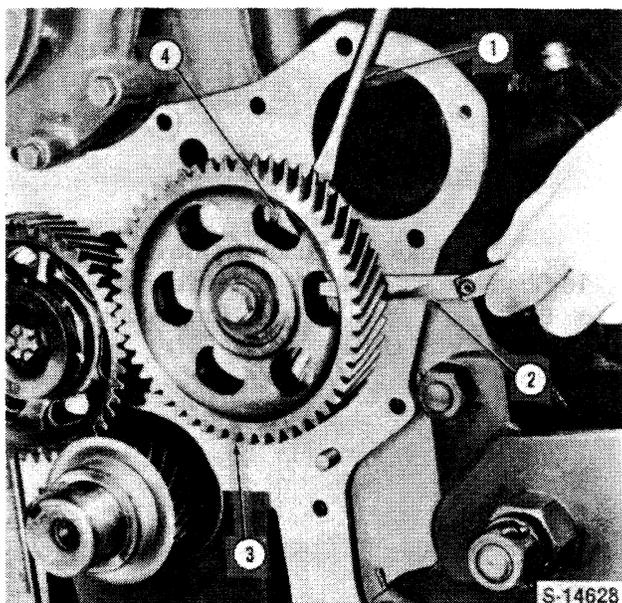

Figure 21
7. Pry the camshaft gear away from the thrust plate and using a dial indicator or feeler gauges, measure the clearance, Figure 21. Install a new camshaft thrust plate if the camshaft end play exceeds the specified limits. See "Specifications," Chapter 3.